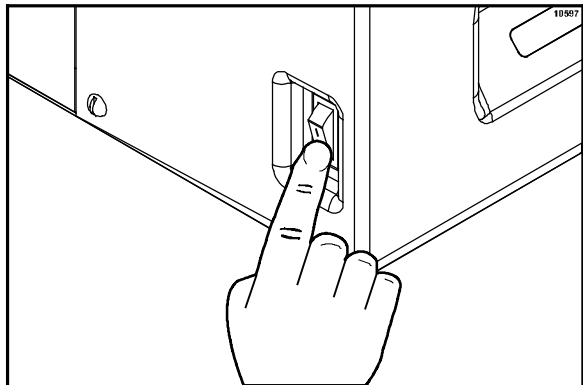

Figure 38
6. Place the power switch in the OFF position. (See Figure 38.)